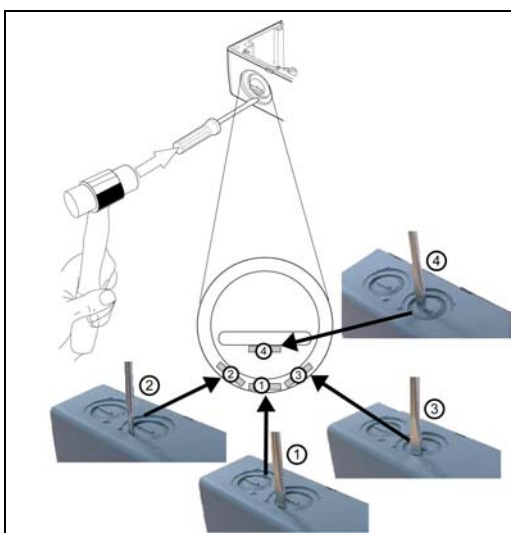

Figure 2-3 Gland Plate or “knockout” Removal
5. Using a hammer and a flat-head screwdriver (as shown in Figure 2-3) strike the gland plate or “knockout”.